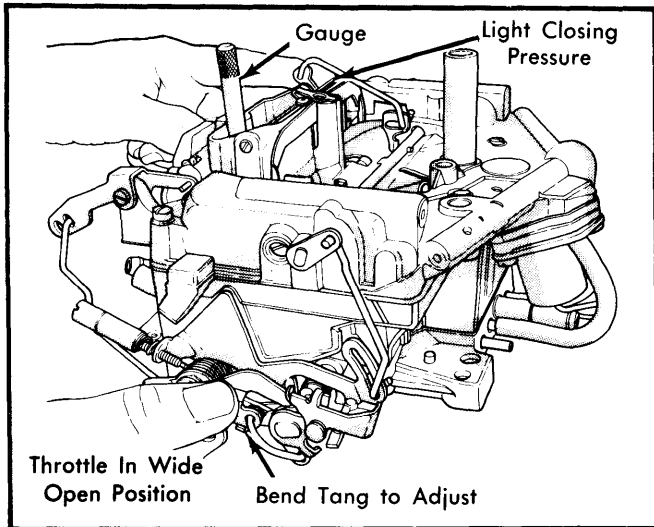

Fig. 10 Adjusting Choke Unloader
1) Open throttle valves wide open. Apply light closing pressure on fast idle cam lever to close choke valve. See Fig. 10.